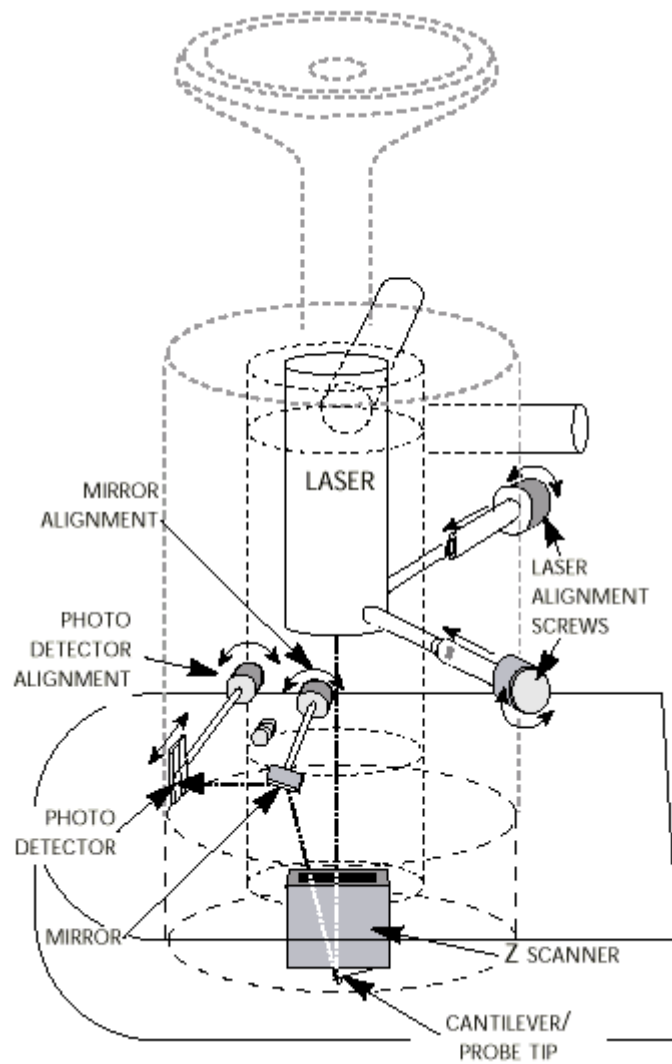

Figure 3.14
4. Disengage all of the alignment thumbscrews (shown in Figure 3.14) by gently pulling them straight out.